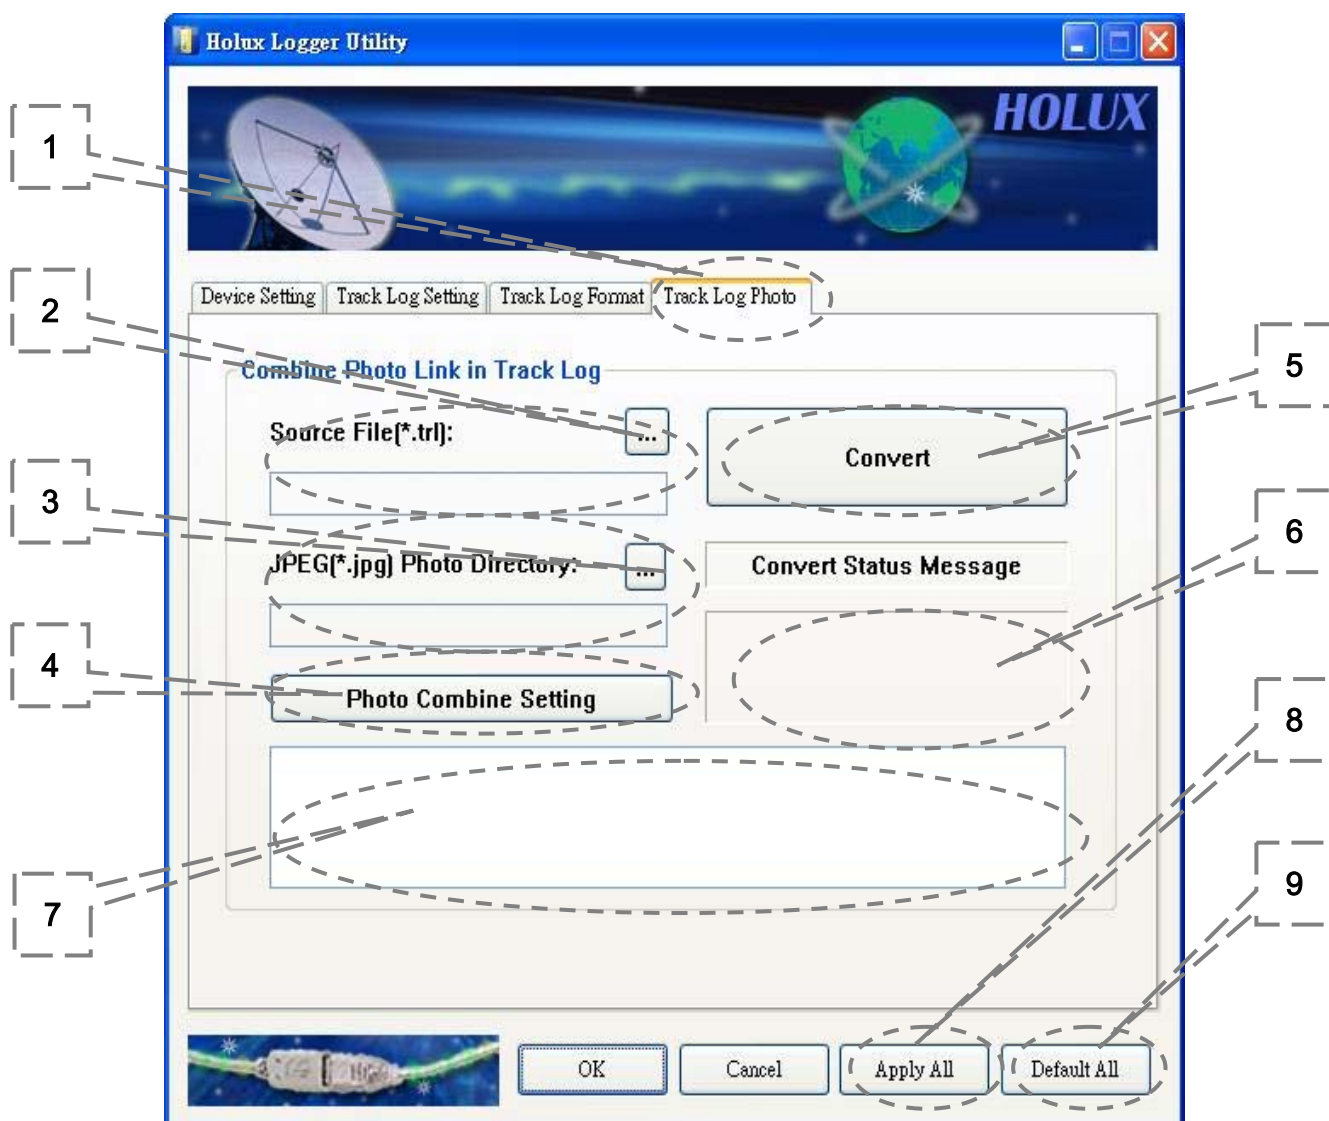

Figure1
1. The following window is shown after executing Mini GPS Viewer_PPC, (see Fig. 1). The Windows 2000/XP version is has a slightly different display.
(Fig. 1)